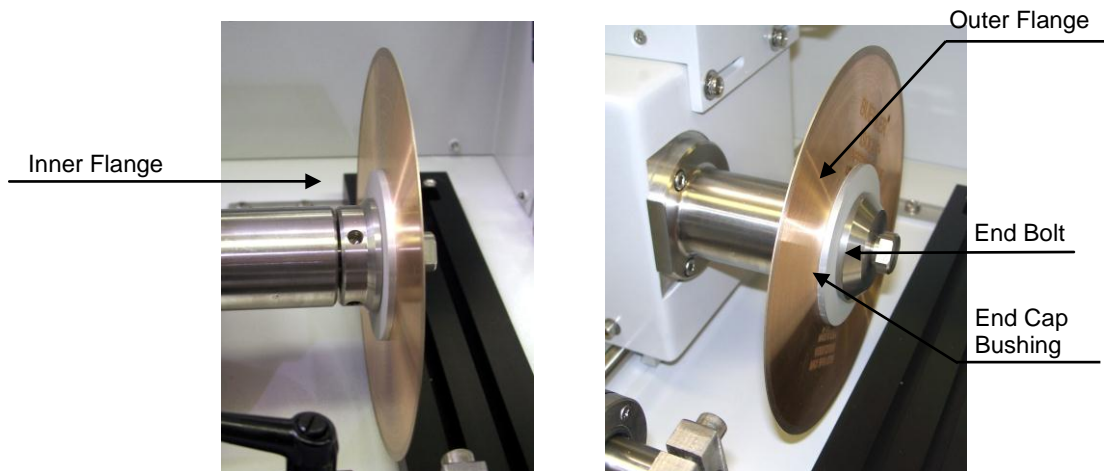

Figure 1 Blade Installation Diagram
1. Remove the thumbscrew and end cap bushing from drive shaft (see Figure 1).